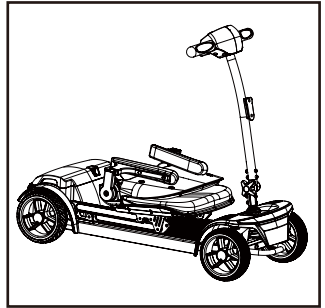

Figure 11 : Folded Armrests
3. Adjust the Armrests: Fold down the left and right armrests one after the other until they rest flat against the seat(see figure 11) .